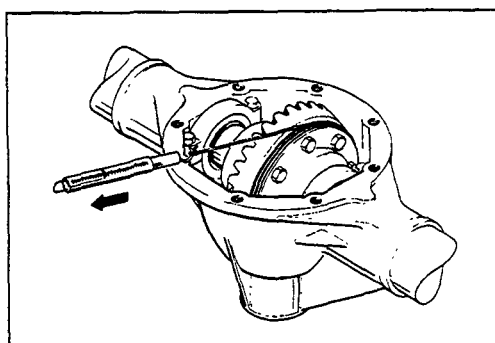

Figure 21
2. Pull the string with the scale so as to rotate the gear IN THE SAME DIRECTION as in * above, slowly and steadily. (Fig. 21).